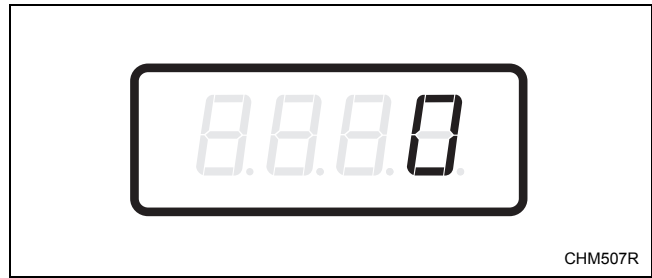

Figure 25
4. When “CnP1” appears in the display, press the START (enter) keypad. There are five digits in the Cycle Modifier B Price. The fifth digit will appear in the display and will flash for one second on, one second off. Refer to *Figure 25*.